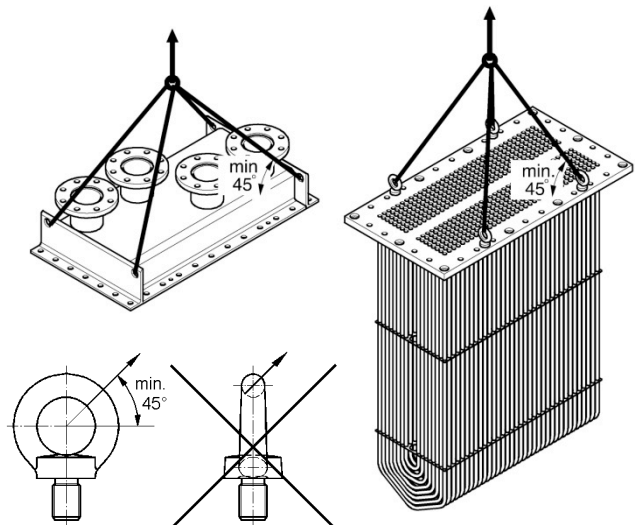

Figure 2. Lifting of the water cover and the tube bundle.
- Lift the tube bundle only by four M16 eyebolts⁴ (DIN 580). Tighten them into the 4 threaded holes in the tube sheet which are designated for this. If needed the position of the eyebolts must be adjusted with suitable washers. Do not insert the point of a hook in an eyebolt but use a shackle. Lift only by using all 4 eyebolts simultaneously (see fig. 2). Do not insert the point of a hook in an eyebolt but use a shackle.
- Lift the water cover only by the 4 lifting holes provided in the end plates (see fig. 2).